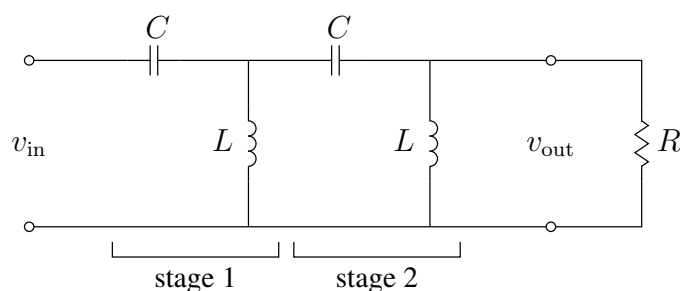

Figure 8: Two-stage ladder of identical LC circuits and load resistor R .
3. Analyze the LC ladder filter in Fig. 8 and plot the frequency response. Compare the frequency response of the two-stage ladder with that of a single stage. Which filter characteristic does the circuit exhibit?
4. Isolate the stages in Fig. 8 with a voltage follower. Analyze the circuit and plot the frequency response.